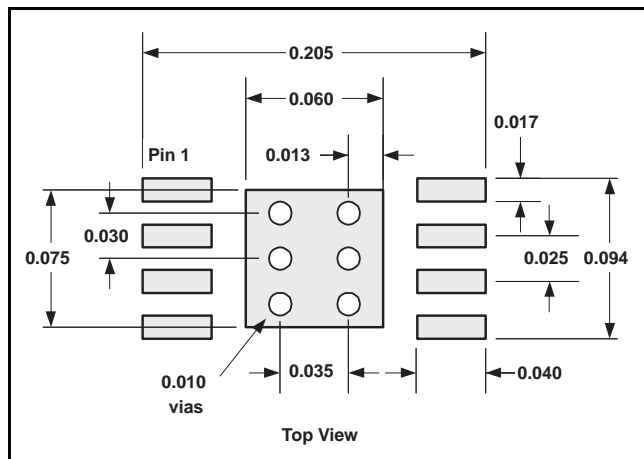

Figure 90. View of Thermally Enhanced Package
1. Prepare the PCB with a top side etch pattern as shown in Figure 90. There should be etch for the leads as well as etch for the thermal pad.